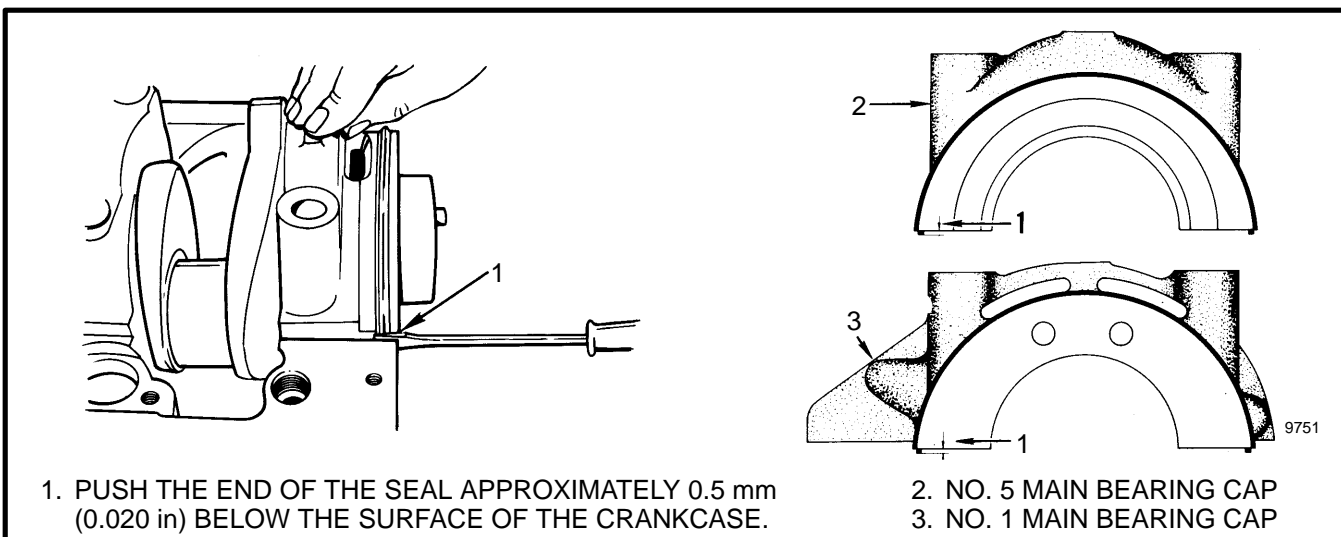

FIGURE 39. OIL SEAL INSTALLATION
6. Install the oil seals in the grooves of the No. 1 and No. 5 main bearing caps. Apply a sealant to them during installation. Use a screwdriver to push the seals approximately 0.5 mm (.020 inch) below the surface of the crankcase. See FIGURE 39.